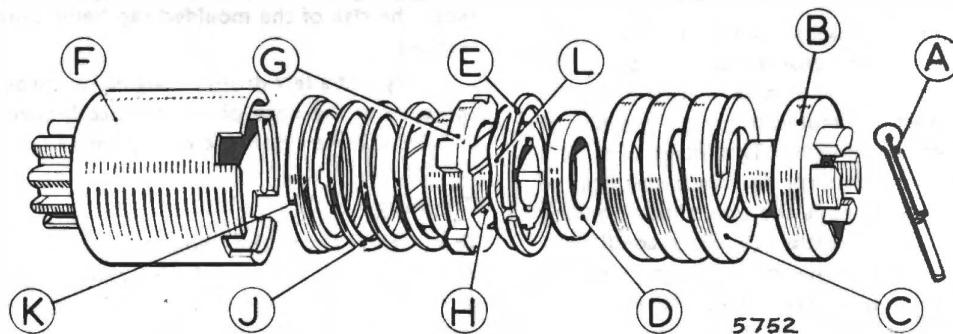

Fig. 18. Exploded view of starter drive
- Press the new bearing bush into the end bracket using a shouldered, highly polished mandrel of the same diameter as the shaft which is to fit in the bearing (Fig 18) Porous bronze bushes must not be opened out after fitting, or the porosity of the bush may be impaired.
Having removed the armature as described in the section dealing with starting motors, the drive can be dismantled as follows (see Fig. 18):—